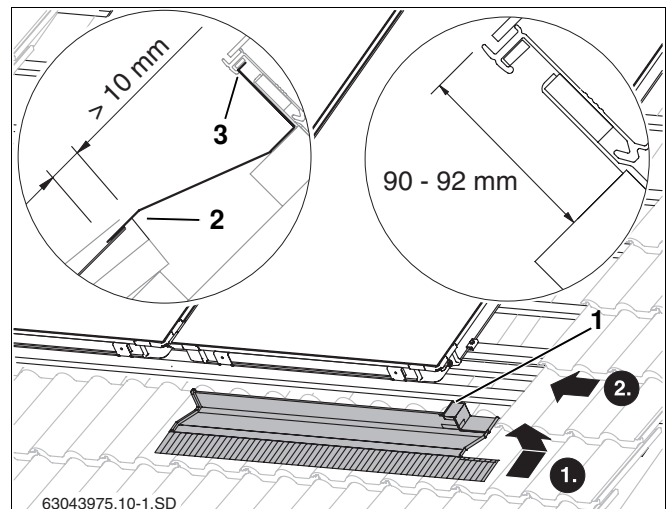
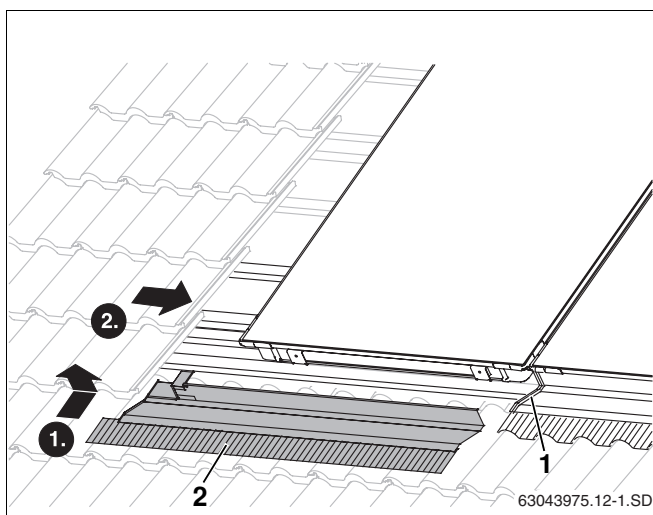

Fig. 44 Lower right facing collector
Fig. 47 Fitting the left-hand lower facing collector
- Insert upper edge of the right-hand facing collector into the recessed channel on the collector (Fig. 44, **Item 3**).
- Push facing collector towards the collector so that the short edge on the right (Fig. 44, **Item 1**) grips up into the recessed channel on the collector.
The facing collector must overlap the pan tile by at least 10 mm (Fig. 44, **Item 2**).
- Lay the left-hand facing collector (Fig. 47, **Item 2**) on the previous one, and fit in the same way as the right-hand one (Fig. 44).
Do not remove protective film from the adhesive on the facing collectors (Fig. 47, **Item 1**) until all collectors are screwed on.